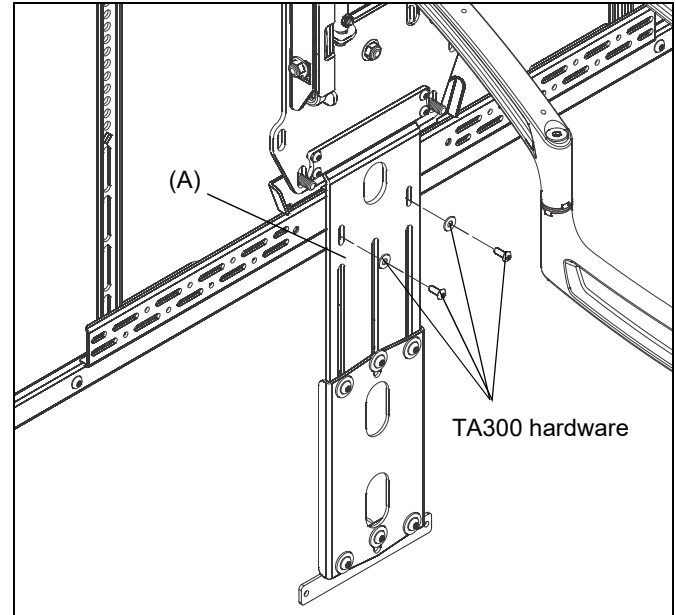

Figure 6
**NOTE:** If also installing side speaker brackets (TA300), attachment bracket (A) should also be attached to TA300 horizontal brackets for additional support. Use hardware provided with TA300. (See Figure 6)